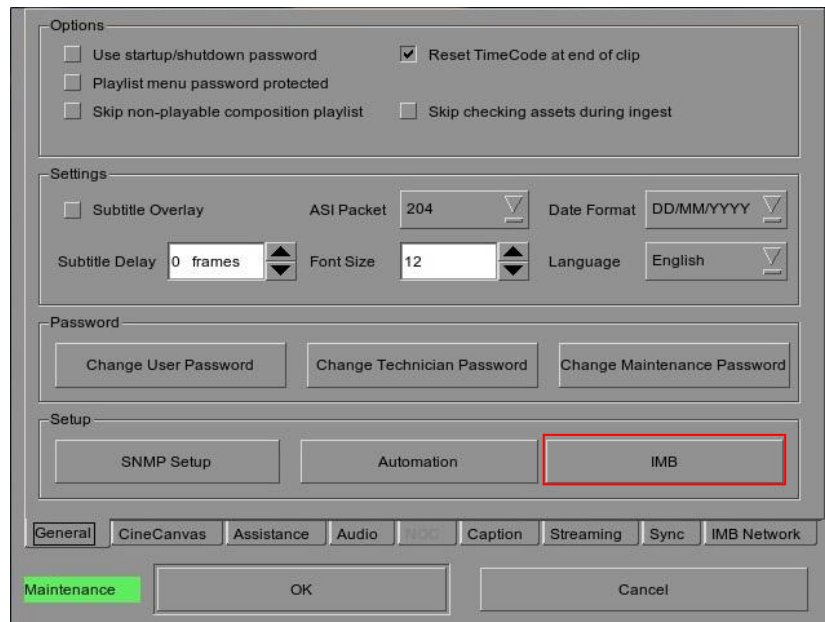

Figure 25 Configuration Menu - General Page
- b. Read and perform the actions listed in the Marriage Checklist. In the Marriage Checklist window (see Figure 25), the system checks that all tamper switches are secure and lists items that you must check to ensure the projector is secure before proceeding. Click the [Next] button to proceed to the Arming window.